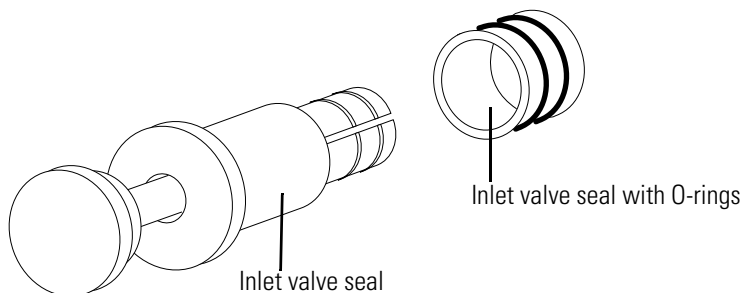

Figure 3-43. Inlet valve seal disengaged from tool
8. Loosen the knob to disengage the seal. See Figure 3-43.